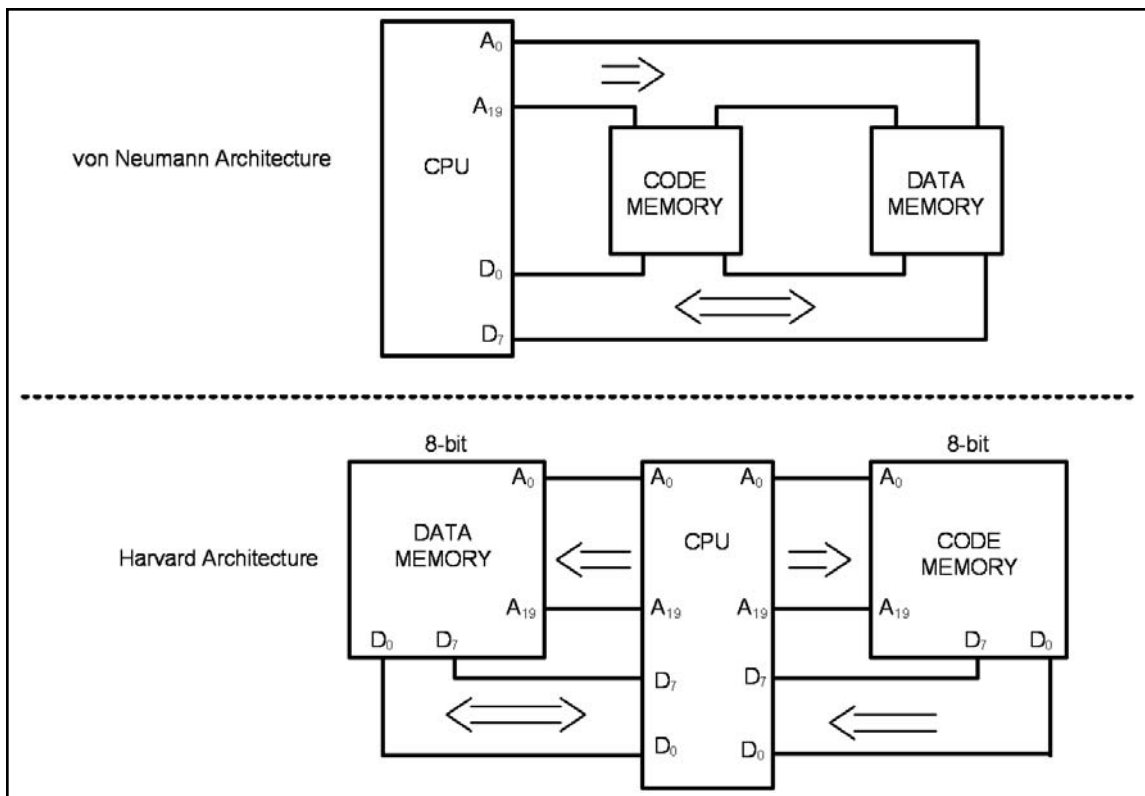

**Figure 20. von Neumann vs. Harvard Architecture**
Every microprocessor must have memory space to store program (code) and data. While code provides instructions to the CPU, the data provides the information to be processed. The CPU uses buses (wire traces) to access the code ROM and data RAM memory spaces. The early computers used the same bus for accessing both the code and data. Such an architecture is commonly referred to as *von Neumann (Princeton) architecture*. That means for von Neumann computers, the process of accessing the code or data could cause them to get in each other's way and slow down the processing speed of the CPU, because each had to wait for the other to finish fetching. To speed up the process of program execution, some CPUs use what is called *Harvard architecture*. In Harvard architecture, we have separate buses for the code and data memory. See Figure 20. That means that we need four sets of buses: (1) a set of data buses for carrying data into and out of the CPU, (2) a set of address buses for accessing the data, (3) a set of data buses for carrying code into the CPU, and (4) an address bus for accessing the code. See Figure 20. This is easy to implement inside an IC chip such as a microcontroller where both ROM code and data RAM are internal (on-chip) and distances are on the micron and millimeter scale. But implementing Harvard architecture for systems such as x86 IBM PC-type computers is very expensive because the RAM and ROM that hold code and data are external to the CPU. Separate wire traces for data and code on the motherboard will make the board large and expensive. For example, for a Pentium microprocessor with a 64-bit data bus and a 32-bit address bus we will need about 100 wire traces on the motherboard if it is von Neumann architecture (96 for address and data, plus a few others for control signals of read and write and so on). But the number of wire traces will double to 200 if we use Harvard architecture. Harvard architecture will also necessitate a large number of pins coming out of the microprocessor itself. For this reason you do not see Harvard architecture implemented in the world of PCs and workstations. This is also the reason that microcontrollers such as AVR use Harvard architecture internally, but they still use von Neumann architecture if they need external memory for code and data space. The von Neumann architecture was developed at Princeton University, while the Harvard architecture was the work of Harvard University.